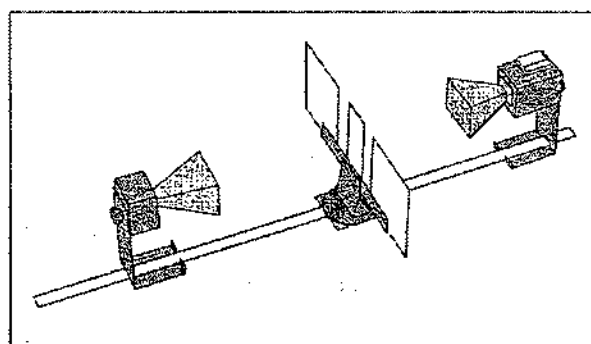

Figure 6.2 Equipment Setup
- ① Arrange the equipment as shown in Figure 6.2. Use the Slit Extender Arm, two Reflectors, and the Narrow Slit Spacer to construct the double slit. (We recommend a slit width of about 1.5 cm.) Be precise with the alignment of the slit and make the setup as symmetrical as possible.
- ② Adjust the Transmitter and Receiver for vertical polarization (0°) and adjust the Receiver controls to give a full-scale reading at the lowest possible amplification.
- ③ Rotate the rotatable Goniometer arm (on which the Receiver rests) slowly about its axis. Observe the meter readings.
- ④ Reset the Goniometer arm so the Receiver directly faces the Transmitter. Adjust the Receiver controls to obtain a meter reading of 1.0. Now set the angle θ to each of the values shown in Table 6.1. At each setting record the meter reading in the table. (In places where the meter reading changes significantly between angle settings, you may find it useful to investigate the signal level at intermediate angles.)